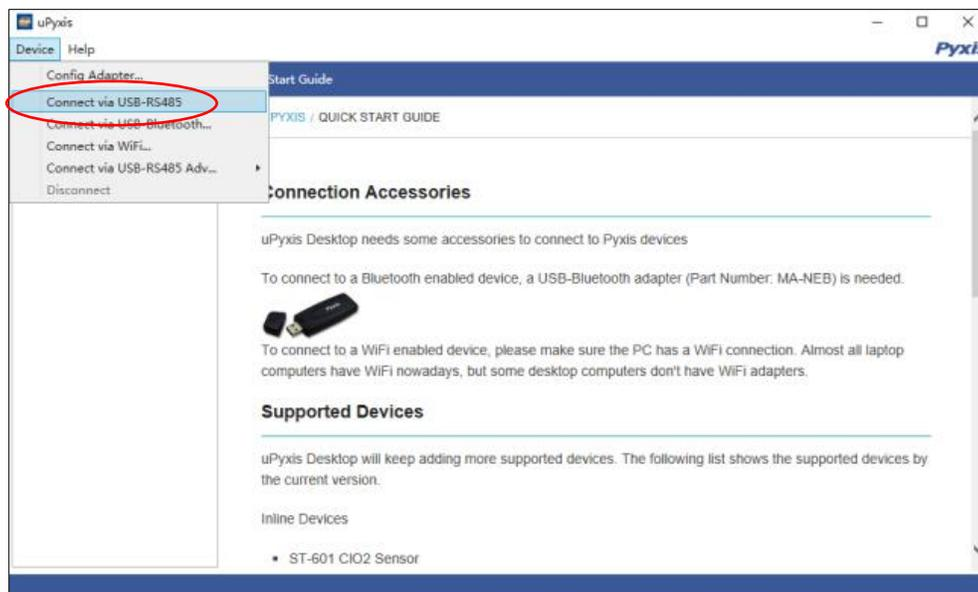

Figure 6. Connect to ST-750 via USB-Bluetooth option
- 6) Select Connect via USB-RS485 (Figure 6).